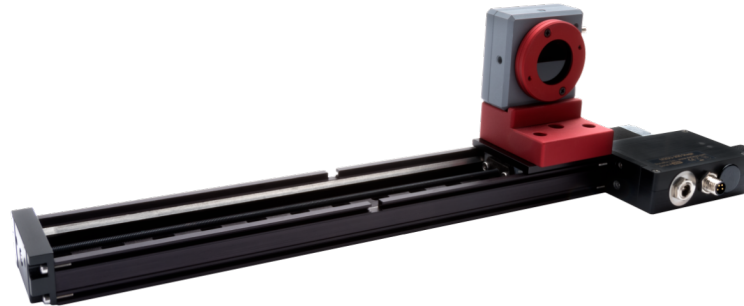

Figure 1: Line laser profiling system
The following parts will be included with the LLPS. Follow the assembly steps to mount the LCM camera on the M2DU stage as shown in Figure 1 for use with the line laser software.
3. Attach the mounting block with attached camera to the stage using two M3X0.5 screws down through the front of the mounting block to the front two holes of the stage parallel to the stage movement as shown in Figure 1.